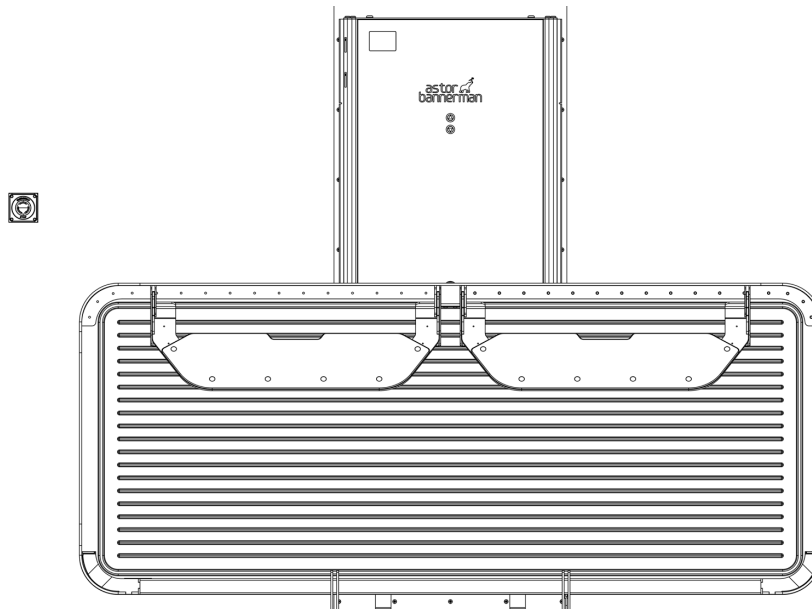

Fig 12.8a
- Bring the stretcher towards the product and rest as shown in Fig 12.8a.